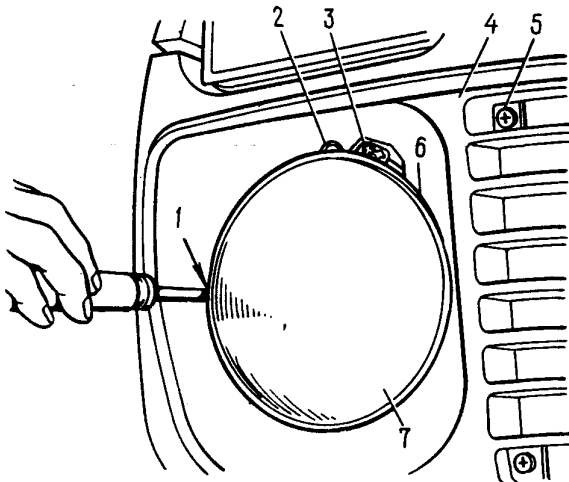
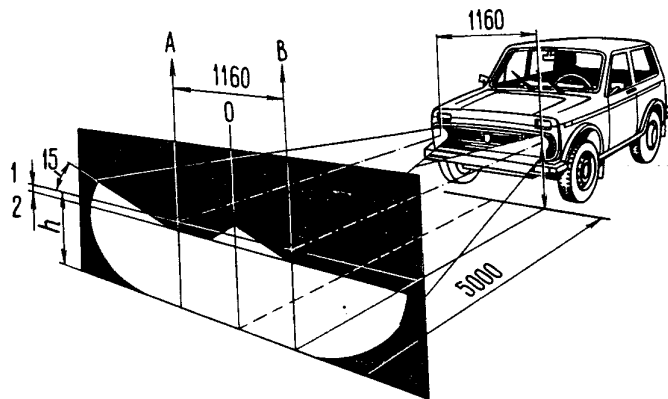

Fig. 7-27. Headlight Aiming:
Fig. 7-28. Headlight Aiming Diagram
- remove decorative facing 4 (Fig. 7-27) on the front end of the body by turning out screws 5;
Mark the screen as shown in Fig. 7-28, drawing an axial vertical line O and vertical lines A and B passing through the points which correspond to the headlight centres. These lines should be symmetrical with the fore-and-aft line of the car. Draw line 1 at the height of the headlight centres above the floor and line 2 of the headlight hot spots at a distance of 120 mm below line 1.
Turn on the lower beam. Cover first the L.H., then the R.H. headlight with a piece of cardboard or dark cloth and adjust the light beams with screws 1 and 2 (Fig. 7-27). The upper boundary of the hot spots of well-aimed headlights should coincide with line 2 (Fig. 7-28) while the points of intersection of the horizontal and inclined portions of the hot spots, with lines A and B.